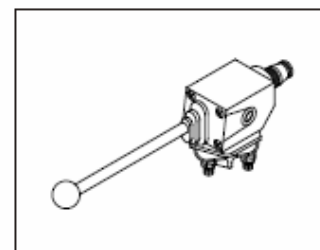

Fig 1.2 Manual Lowering valve
Fig 1.2 shows the manual lowering valve that fits in place of the solenoid operated version (item 3).